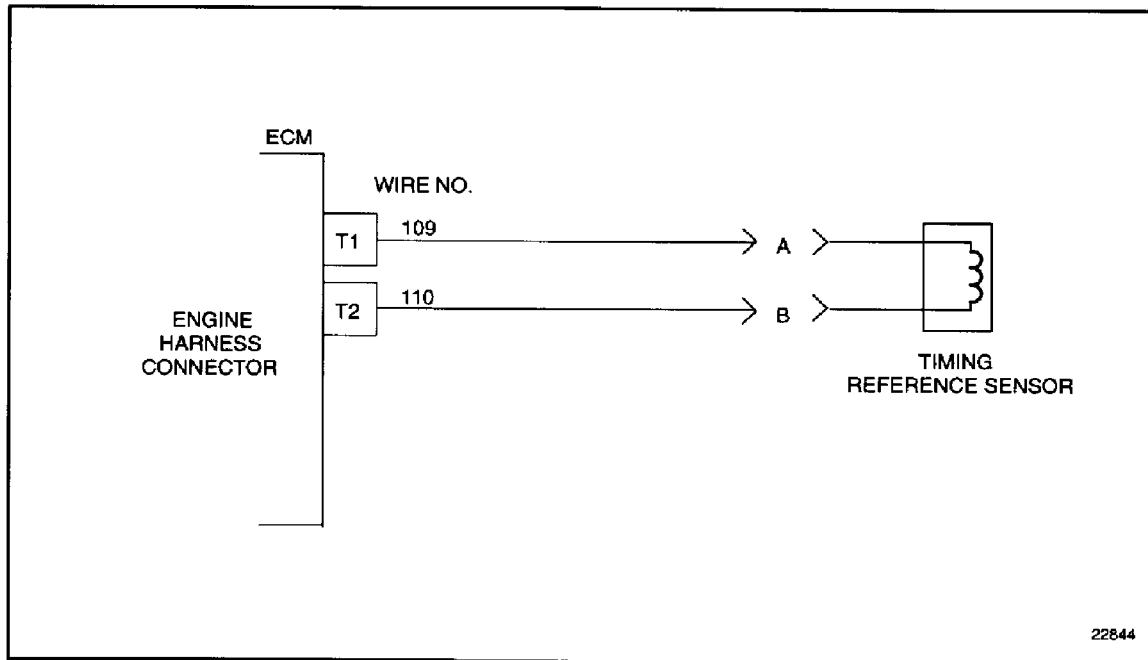

Figure 42-6 Engine Harness Connector to Timing Reference Sensor
2. Measure resistance between sockets T1 and T2 on the engine harness connector. See Figure 42-6.